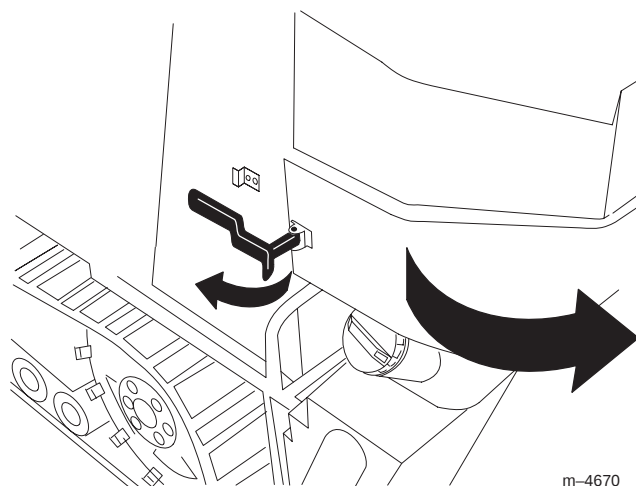

**Figure 17**
1. Pull up on the bar securing the hood in the open position and lower the hood (Fig. 17).